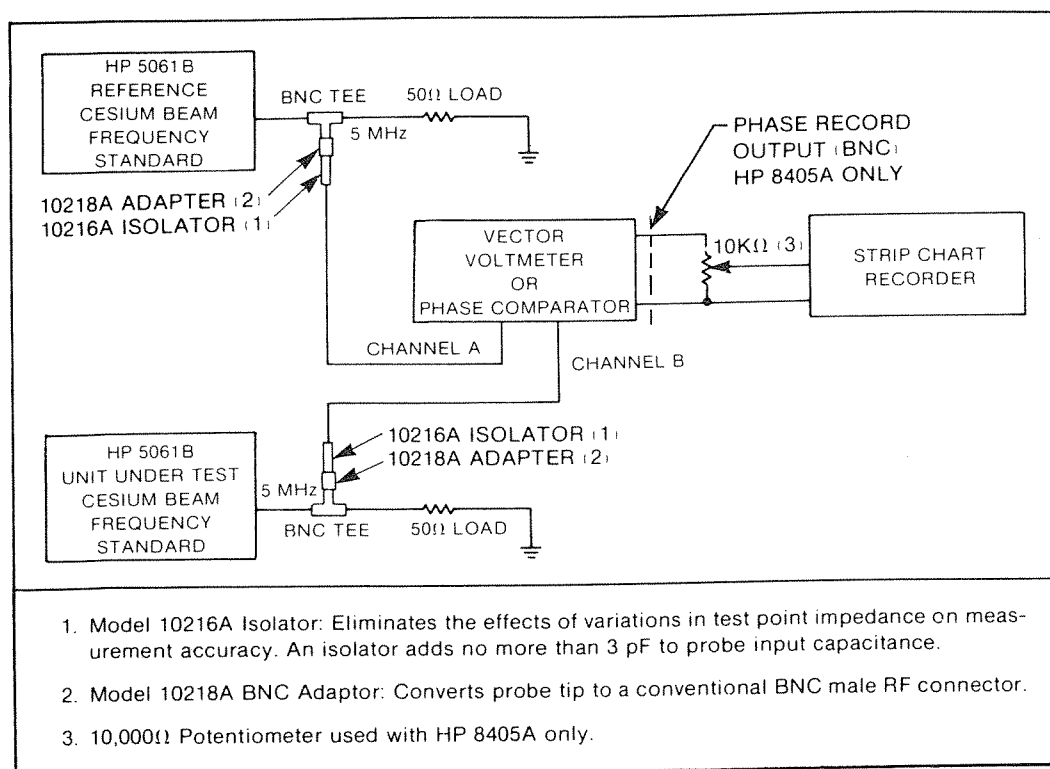

Figure 3-11. Accuracy Measurement Test Setup
- a. Connect equipment as shown in Figure 3-11.